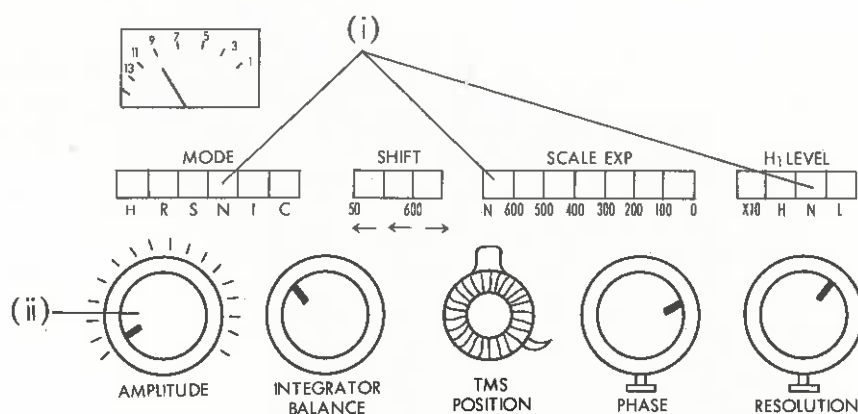

FIGURE 6 CONTROLS FOR LOCATING A SIGNAL.
- (i) Press the three red NOR buttons (figure 6).
- (ii) Turn the AMPLITUDE to about 10 (figure 6).